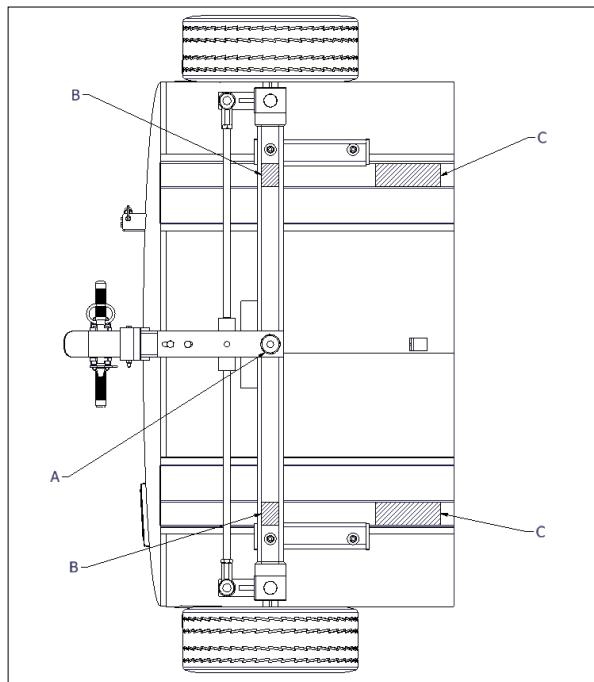
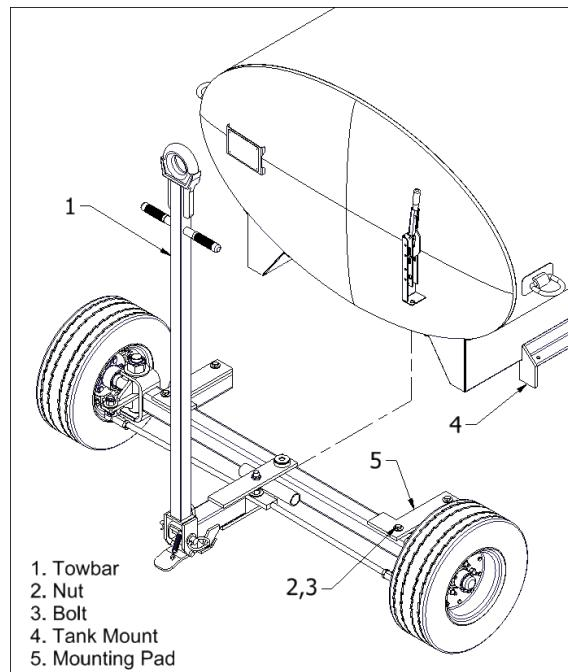

Figure 4-2 Lift Points
Figure 4-6 Front Undercarriage Removal
- b. Raise equipment with suitable maintenance jack (see Figure 4-2, arrow A for jack placement) high enough to remove wheel assembly.
- c. Place approved jack stands under front axle (see Figure 4-2, arrow B for stand placement).
To remove the entire Front Undercarriage assembly see figure 4-6, the equipment must have the front end raised. See Figure 4-2 for lift points.
- a. Raise equipment with suitable maintenance jack (see Figure 4-2, arrow A for jack placement) to allow four inches of space between the wheels and ground.
- b. Place cribbing under tank skids (see Figure 4-2, reference arrows C) to safely support the equipment.
- e. Remove bolts (2) and nuts (3).
- g. Pull Front Undercarriage forward. Note location of rubber mounting pads (5).
- a. Raise equipment with suitable maintenance jack high enough to remove wheel assembly. (See Figure 4-2, arrow A for jack placement).
- b. Place approved jack stands under rear axle (see Figure 4-2, arrow B for stand placement).